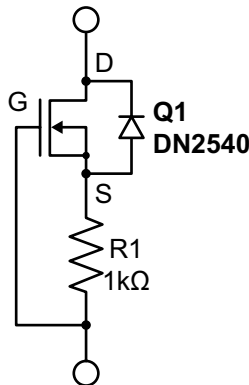

Figure 3. Constant Current Source
4. The constant current circuit can be used as a Current Limiter. When the current is below the current limit, the circuit shown in Figure 3 also behaves like a resistor with value of 1.01kΩ.
Figure 3 shows a constant current source using a Depletion FET and a resistor.